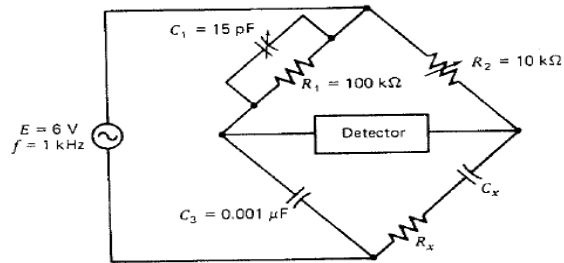

Figure 2
3. The Schering bridge shown in Figure 2 is operated at balance. Find the equivalent series resistance and capacitance of  $R_x$  and  $C_x$ . Also find the Q factor of the capacitor  $C_x$ . (Understand)